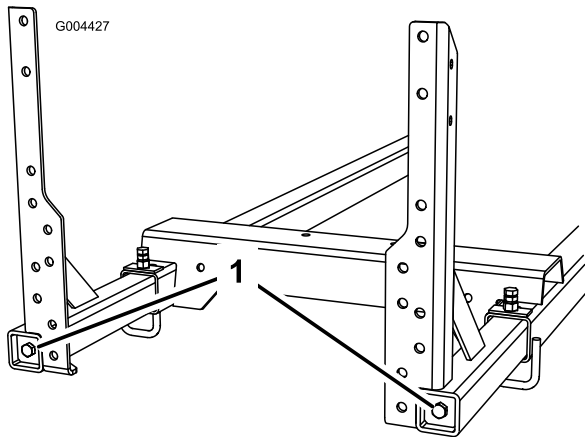

Figure 8
4. Tighten the boom frame bolts (Figure 8).